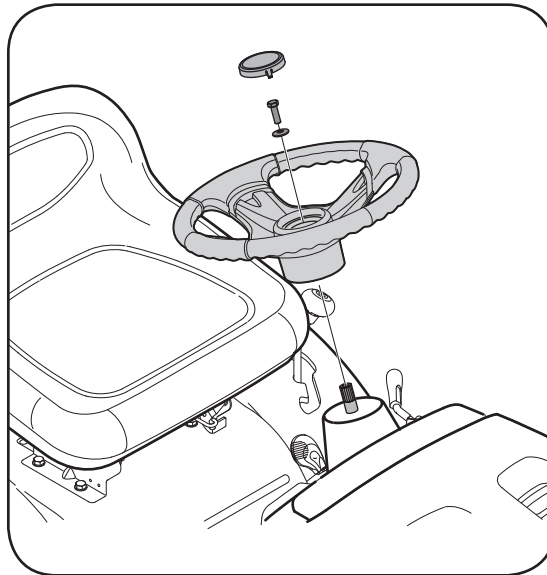

Figure 3
2. Place the washer (with the cupped side down) over the steering shaft and secure with the hex bolt. See Figure 3.